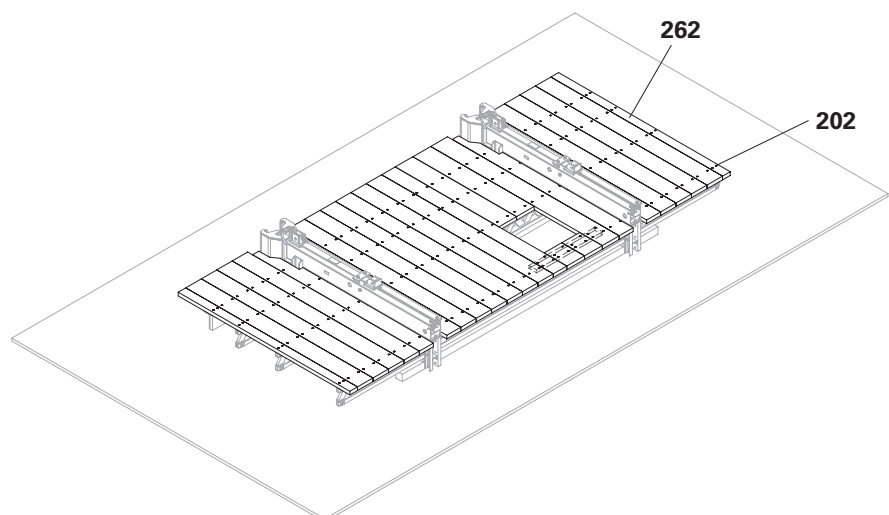

Fig. B4.10
11. Place the planking (262) on the Formwork Girder GT 24 (21), align and screw tight with 2x Torx 6 x 80 (202) per formwork girder. (Fig. B4.10)